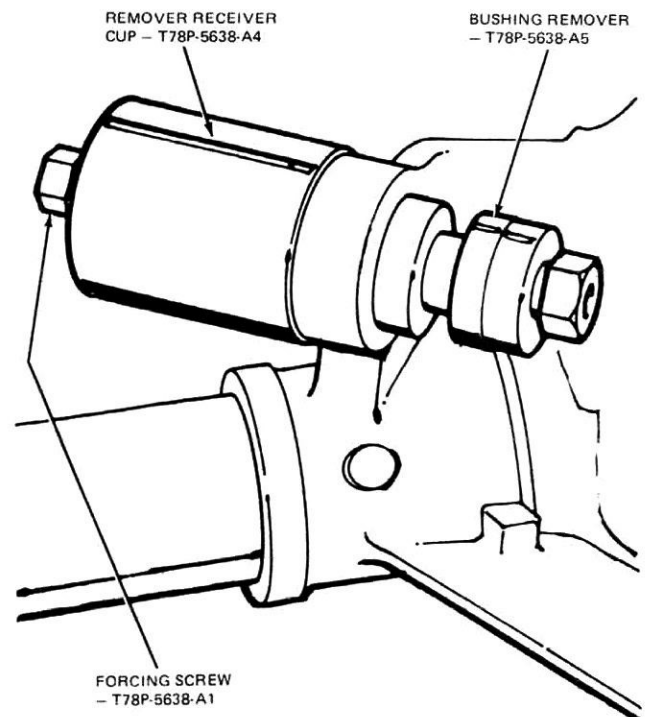

FIG. 12 Bushing Removal
1. Place the upper arm rear bushing remover tool in position as shown in Fig. 12.